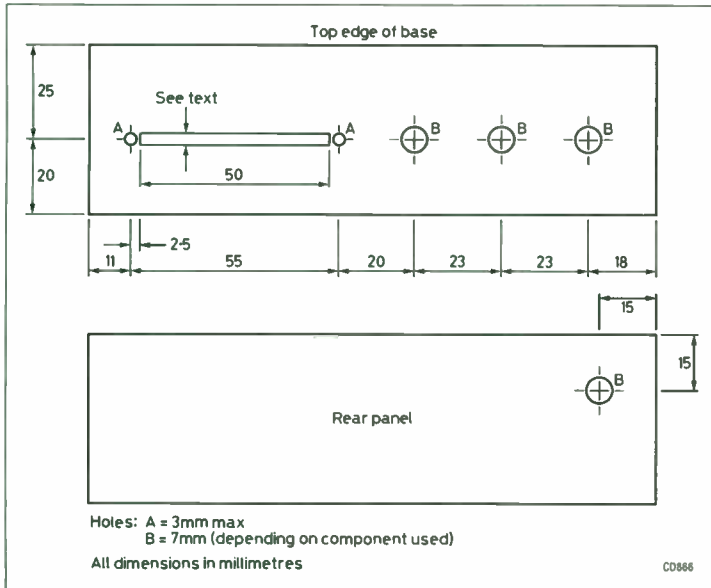

Fig 6.10. Drilling and cutting detail of front and rear panels
13. Now for boxing up the project. The following description assumes that the listed box is to be used and any other will need some modification to the layout etc. Fig 6.10 gives the marking out detail. Because the cover has a lip which covers part of the two sides at the top edge it is important to use the top and left-hand edges for reference when making any measurements. The only problem will be the slot for the tuning potentiometer RV1. For this a thin file known as a 'warding file' is required. It is about 2mm thick and is given the name because it is sometimes used in key cutting. The box base has a protective covering of thin polythene to help to prevent scratching. Do not remove it yet. To make it easy to mark the various drilling points use this dodge. Make a mark 25mm from the top edge at each end of the front panel. This will be covered by the lip in the cover. Fix a piece of PVC sticky tape between the two marks so that it makes a removable line across the front of the box. Mark off on the tape the positions of the various holes according to the dimensions given in Fig 6.10. When it is certain that the marks are in the correct